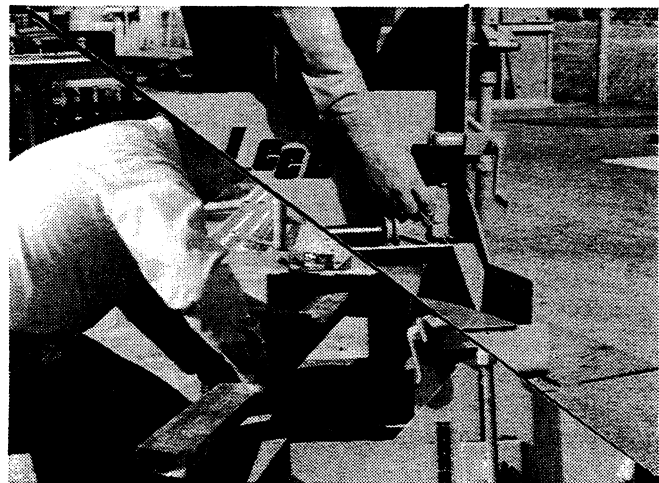

Figure 5-4—Screed Insert Removal
- Clean screed insert. Remove screed insert by disconnecting extension cylinder and then pulling the screed straight out. See Figure 5-4.